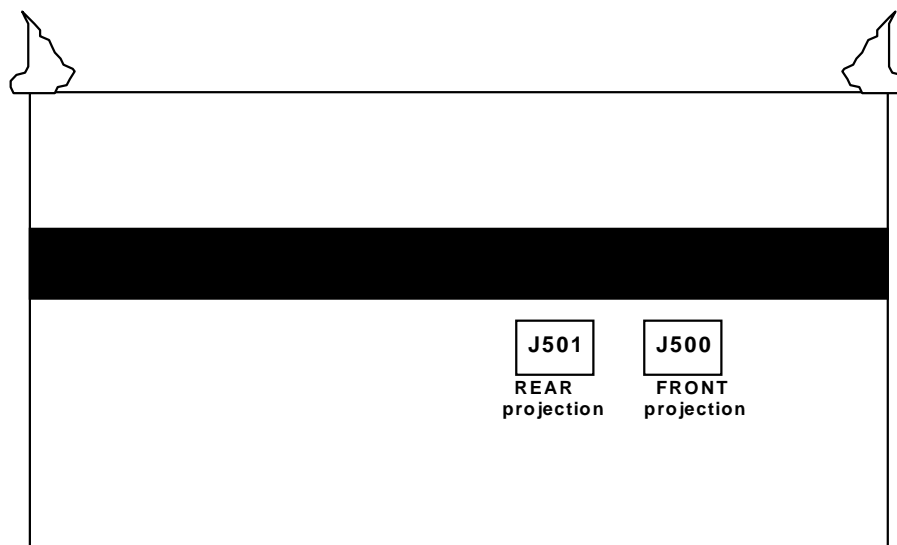

Figure 3-7 Horizontal Scan Jumper and Jacks on Horizontal Deflection Board.
The Horizontal Scan Reversal Jumper reverses the image projection for front or rear projection. Figure 3-7 illustrates the location of the jumpers on the Horizontal Deflection Board (the board that is furthest from the rear of the projector) and
The Vertical Invert jumpers invert the image vertically for use in some situations that use mirrors or ceiling projections. Figure 3-7 illustrates the location of the jumpers on the Vertical Deflection Board (the fourth board from the rear of the projector). The Model 330, 340SC and 370SC Projectors are shipped in the normal vertical projection position with vertical jumpers in J200, J300 and J400 and convergence jumpers in J500, J600, and J700. For other orientations, change the jumpers in accordance with Table 3-1.
1. Turn power off at the projector and wait about five (5) minutes for the arc lamp to cool.
4. Pull out the Vertical Deflection Board and verify the vertical jumpers are inserted in the correct jacks, depending on your application (refer to Table 3-1 and Figure 3-7). Change jumpers if necessary.